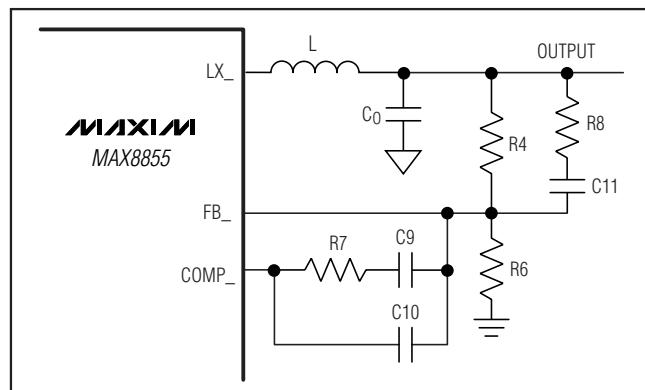

Figure 4. Type III Compensation Network
The output voltages for regulator 1 (with REFIN connected to SS1) and regulator 2 are set with a resistor voltage-divider connected from the output to FB- to GND as shown in Figure 4. Select a value for the resistor connected from output to FB- (R4 in Figure 4) between 2kΩ and 10kΩ. Use the following equations to find the value for the resistor connected from FB- to GND (R6 in Figure 4):
The high-switching-frequency range of the MAX8855 allows the use of ceramic output capacitors. Since the ESR of ceramic capacitors is typically very low, the frequency of the associated transfer-function zero is higher than the unity-gain crossover frequency,  $f_C$ , and the zero cannot be used to compensate for the double pole created by the output filtering inductor and capacitor. The double pole produces a gain drop of 40dB and a phase shift of  $180^\circ$  per decade. The error amplifier must compensate for this gain drop and phase shift to achieve a stable high-bandwidth closed-loop system. Therefore, use type III compensation as shown in Figure 4. Type III compensation possesses three poles and two zeros with the first pole,  $f_{P1\_EA}$ , located at 0Hz (DC). Locations of other poles and zeros of type III compensation are given by: